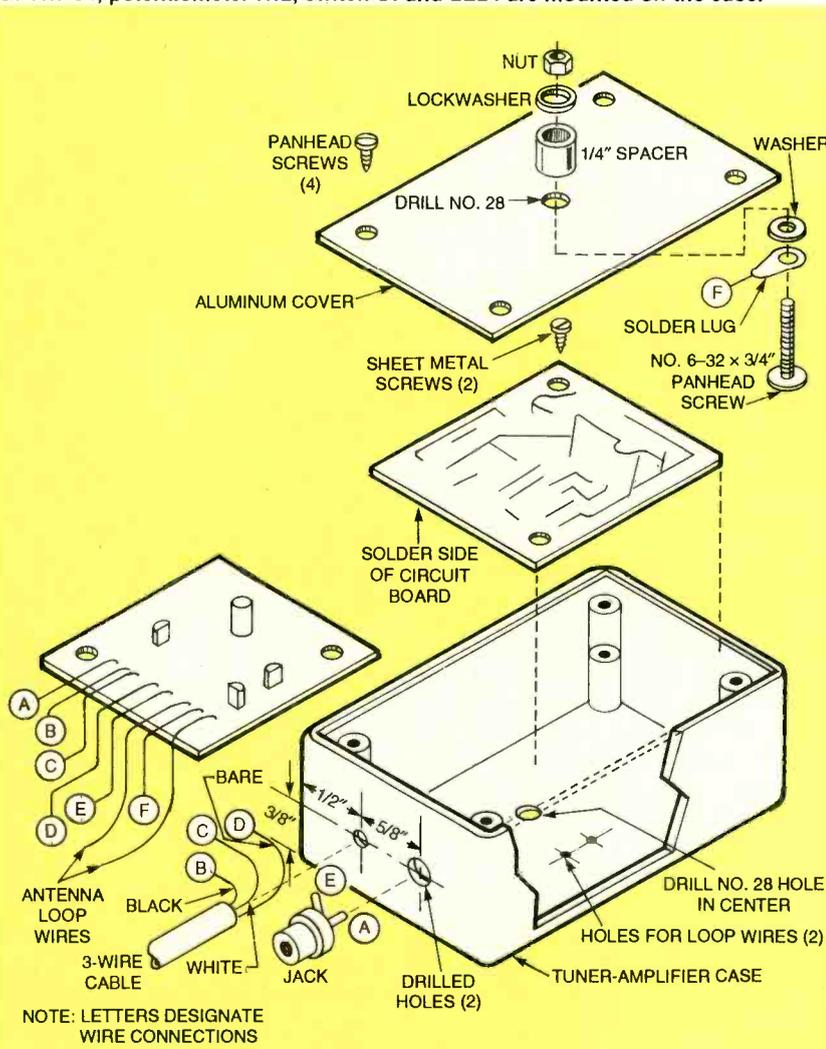

FIG. 6—ASSEMBLY DIAGRAM FOR THE TUNER AMPLIFIER. The circuit board is mounted in an inverted position, and the complete unit moves with the loop antenna.
**Tuner-amplifier.** The tuner-amplifier case is a stock project case with an aluminum cover that measures  $2\frac{1}{16} \times 1\frac{1}{16} \times 1\frac{3}{16}$  inches. Refer to the assembly diagram Fig. 6, and drill a hole in the center of the cover with a No. 28 drill.
hookup wire and solder a lug to one end. Place the lug on a No. 6-32  $\times \frac{3}{4}$ -inch panhead machine screw as shown in Fig. 6, and assemble a washer before inserting it in the hole and fastening it with a  $\frac{1}{4}$ -inch spacer, lockwasher, and nut, as shown. (The free end of the wire will be connected to the ground bus on the circuit board later.)
Drill the five holes in the plastic case as shown in Fig. 6. The central hole in the case must align with the hole in the cover plate. Install the RCA-type phono cable jack J1 in one hole, and insert a 1/4-inch ID rubber grommet in the other hole.
Insert the end of the ten-foot, two-wire shielded cable in the grommet and strip the jacket to permit making the three connections as shown in Fig. 6.
Connect the center conductor of jack J1 (A to A in Fig. 6) to the PC board with about 2 3/4 inches of shielded cable. Keep the unshielded part of the center wire as short as possible on each end. Connect the shield to the ground connection on J1 and the other end to the ground bus on the board. Solder the wire from the loop antenna to the cover to the circuit board (F to F in Fig. 6). (The leads from the loop antenna will be soldered later.) SET the tuner amplifier aside.